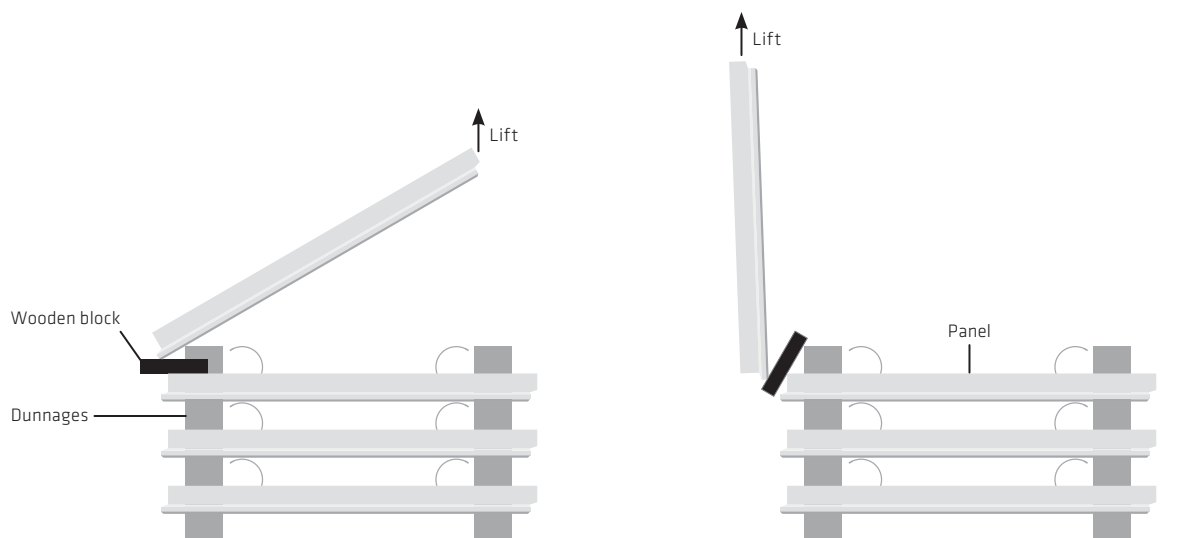

FIGURE 7: Suggested stacking and lifting procedures for ARES segmental panels.
- ▶ The dunnage shall be properly spaced to avoid uneven loading in the panel stacks. (See Figure 7.) **All dunnages are the property of Tensar or its precaster and should be stacked by the Contractor for loading on a subsequent panel delivery truck.**
- ▶ Remove the panels from the stack using proper lifting devices. Wood blocking must be placed under the bottom of the panel prior to lifting. (See Figure 7.) This protects the face of the panel being lifted from being scarred by the lower panel.